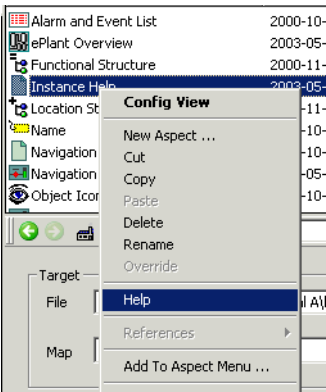
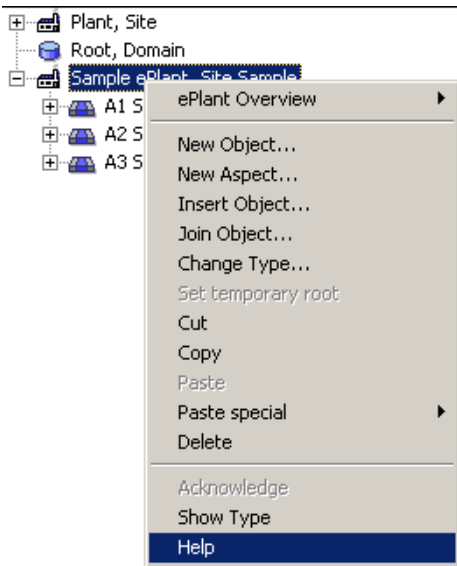

Figure 305. Aspect Context Menu - Help Aspect
Figure 306. Object Context Menu - Help Aspect
6. To view the help file, right-click on the object or the Help aspect and select **Help** from the context menu, see Figure 305 and Figure 306.